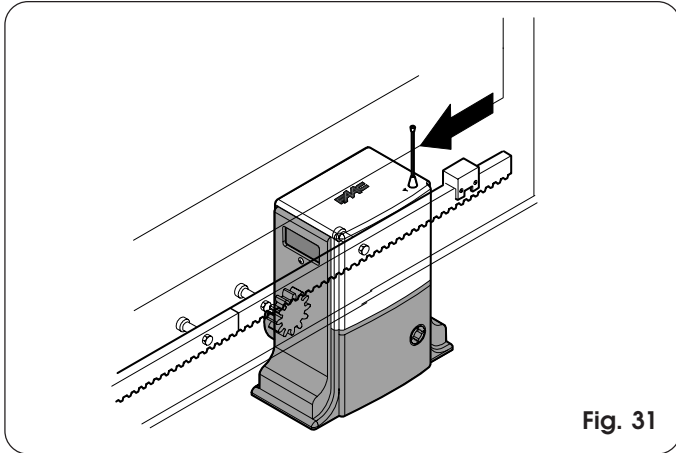

Fig. 31
- Slide the magnet on the rack (Fig. 31) until you see that LED1 on the control board goes off (Fig. 29).